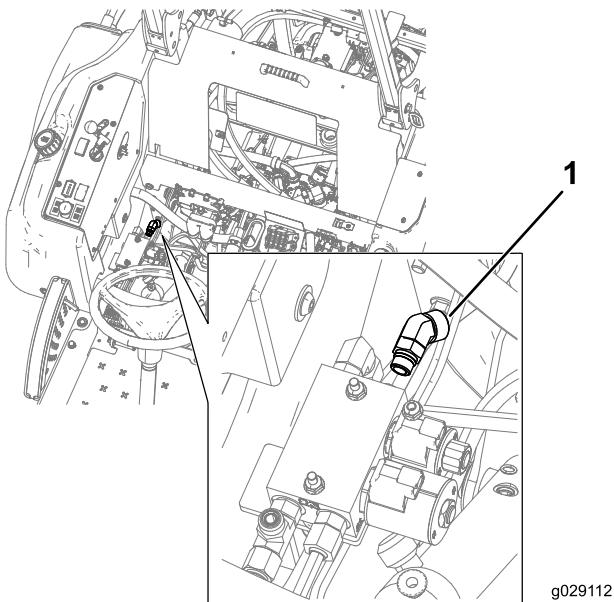

Figure 19
5. Lift the seat on the machine and install the 45° fitting as shown in Figure 19.